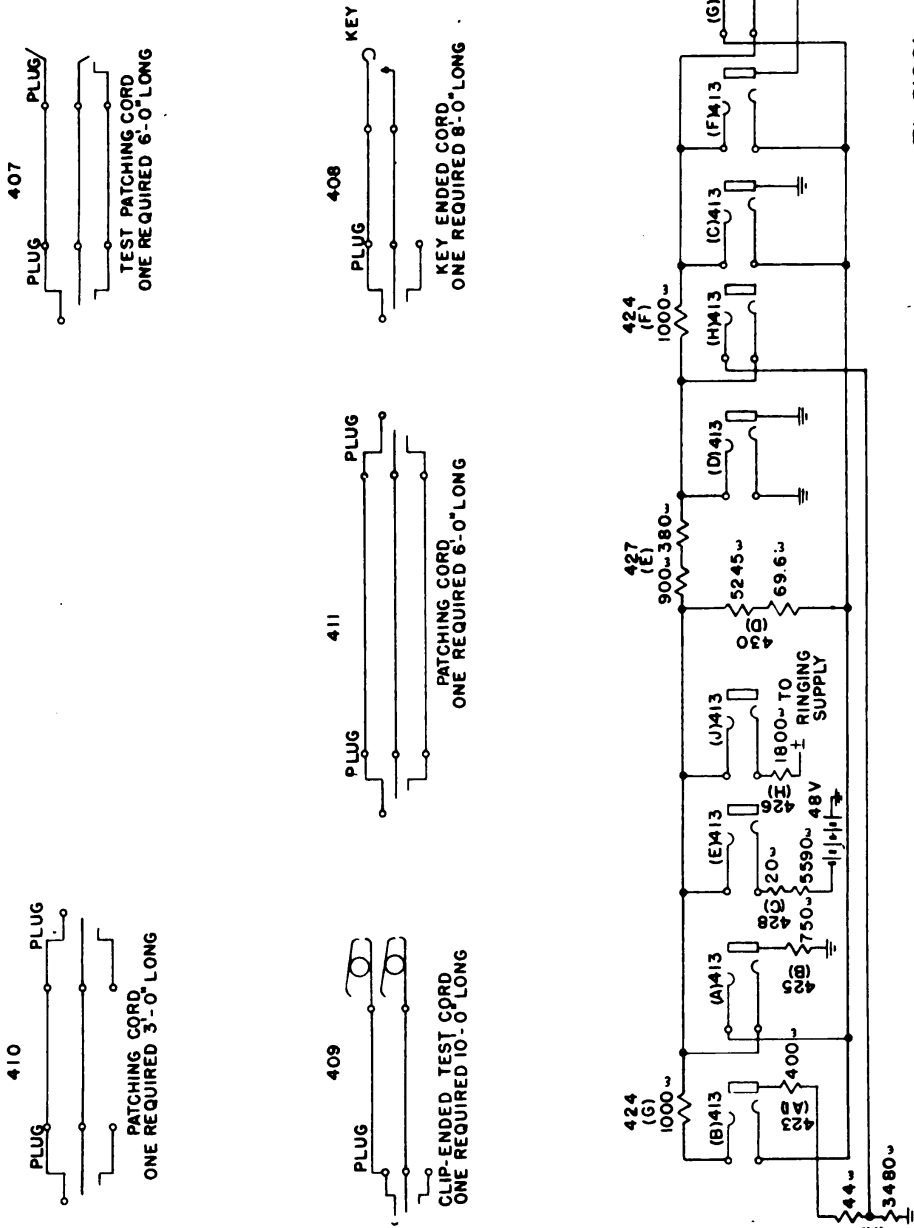
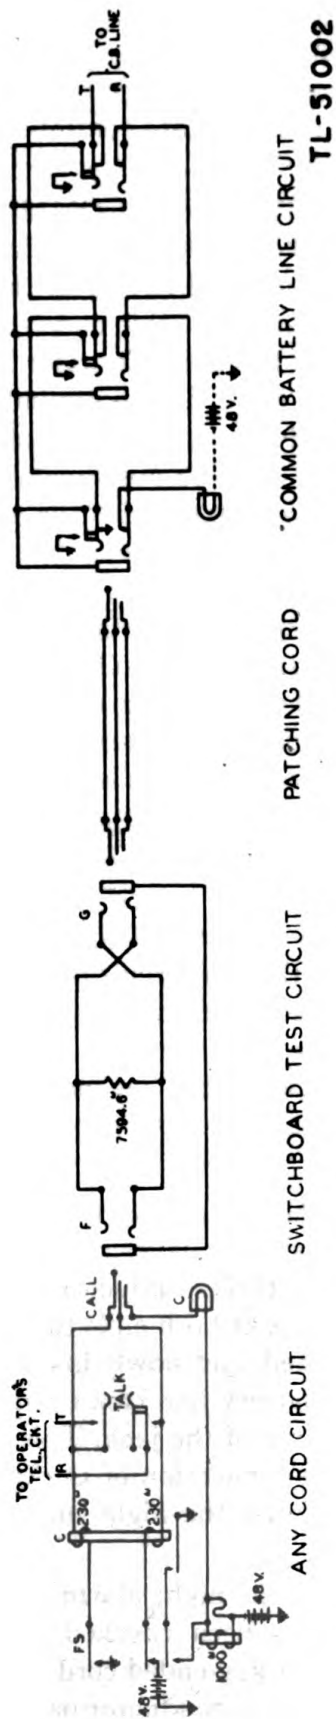
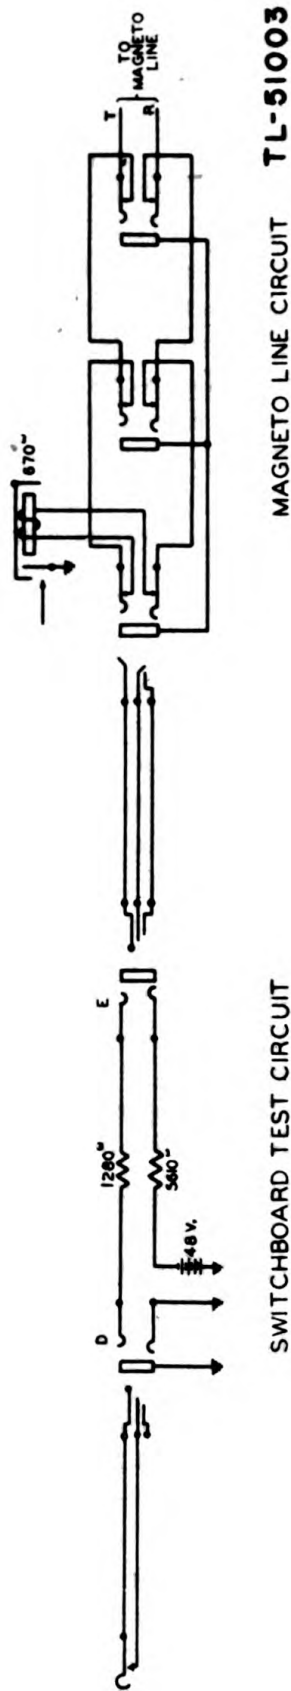

Figure 48. Cabinet BE-72, switchboard test circuit, schematic diagram.
Figure 49. Test of contacts of common-battery line jacks, Switchboard BD-110-(), functional diagram.
Figure 50. Test of magneto line circuit drops, Switchboard BD-110-(), functional diagram.
b. Switchboard Test Circuit (fig. 48). This circuit is used in making routine tests and in locating trouble on the cord sleeve relays, supervisory relays, line lamps, line circuit drops, and night alarm relays. The tests are made from the front of the switchboard. Connect the circuit under test to the jacks in the switchboard test circuit, on the front of Cabinet BE-72, either with a cord circuit or by means of patching cords. Provision is made for giving the testman a visual or audible indication of the performance of the equipment under test. Before making any of the following tests, the testman should be familiar with the switchboard operation as outlined in paragraph 12. The tests are made as follows:
(1) CHECK OF CONTINUITY OF LINE LAMPS. First connect a test plug, with the tip and ring shorted, to the D jack. Connect one end of the two-conductor 3-foot, double-ended test cord 410 (fig. 48) to the C jack and insert the other end in a jack of the line under test until the
(2) CHECK OF MAKE-AND-BREAK CONTACTS OF COMMON-BATTERY LINE MULTIPLE JACKS (fig. 49). With the associated talk-ring key operated to TALK, connect a spare cord circuit to the F jack. Then connect one end of the three-conductor, double-ended test cord 411 (fig. 48) to the G jack, and the other end to the jack under test. The supervisory lamp of the spare cord should light, due to ground on the sleeve of the line jack, and remain lighted as an indication of no trouble. If the tip or ring break contacts of a jack do not break, the supervisory relay of the spare cord will operate and extinguish the associated supervisory lamp as a trouble indication. In the event that the ring break contacts do not break, the line lamp will light as an additional trouble indication. In case the auxiliary make contacts of the jack do not make, the supervisory lamp of the spare cord will not light. This indicates trouble. A momentary make of the tip- or ring-contacts of the jack while rotating the plug in the jack under test causes a click in the operator's telephone receiver and indicates trouble in the jack.
(3) TESTING MAGNETO LINE CIRCUIT DROPS (fig. 50). To apply an operate test to the line drop of the magneto lines, connect the key-ended cord 408 (fig. 48) to the D jack and patch a jack of the line under test to the E jack by means of the test cord 407 (fig. 48), equipped with a test plug. First connect the test plug to the line circuit jack. The white line marked on the shell of the test plug shall be on the underside of the plug shell when inserting the plug in the jack. Remove the heat coils associated with the line under test. Then operate the key on the end of cord 408. This completes the testing path and applies the operate test current to the line circuit drop.
(4) TESTING AND READJUSTING NIGHT ALARM RELAYS.
(11) **TESTING A-C RINGING AND BRIDGING RELAYS OF UNIVERSAL TRUNK CIRCUITS.** To make an operate test on the ringing relays of the trunk circuits, connect the key-ended cord to the D jack. Patch from the M.D.F. terminals (fig. 74) of the trunk under test to the J jack by means of the clip-ended test cord 409 (fig. 48). Be sure to remove the heat coils associated with the trunk under test. The operation of the key completes the testing path, applies the test current to the ringing relay, and should cause the line lamp to light. The lamp should remain lighted when the key is released. To extinguish the line lamp, connect the plug of a spare cord circuit to the line jack of the trunk circuit under test. If the light goes out, it indicates that the bridging relay is operating.